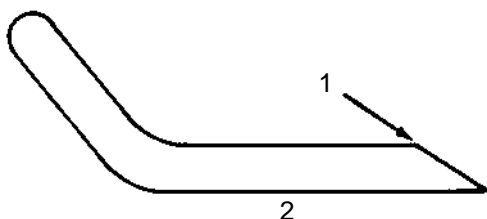

Figure 61
3. Examine the cutting edges of all the blades. Sharpen the cutting edges that are dull or nicked. To assure sharpness, sharpen only the top side of the cutting edge while maintaining the original cutting angle (Fig. 61). If the same amount of metal is removed from both cutting edges, the blade will remain balanced.